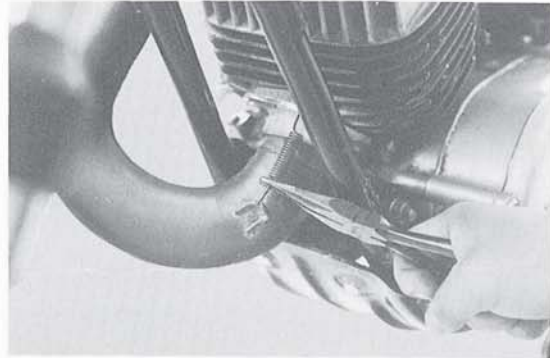

Fig. 4-1-2
- 1) Remove the one spring. (Figs. 4-1-2 and 3)